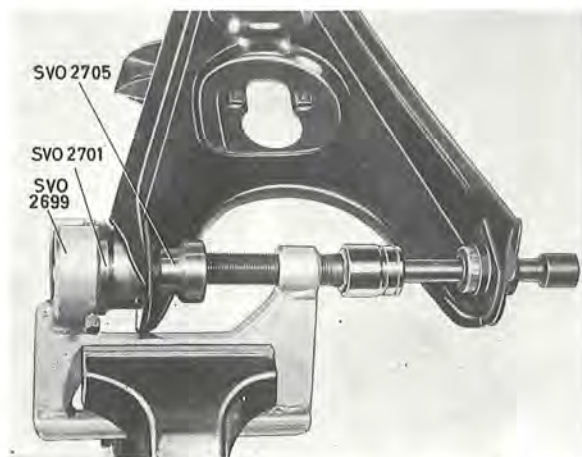

Fig. 6-27. Fitting the rubber bush, lower wishbone
2. Press the bushes in with drift SVO 2705 (turned in the opposite direction) as well as counterhold SVO 2701 and press tool SVO 2699, see Fig. 6-27. Both